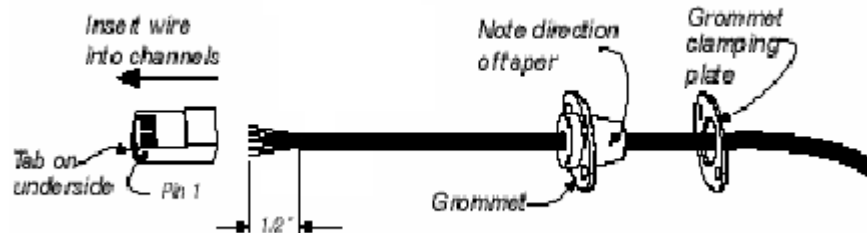

Figure 6-2 Outdoor Transceiver End of the Interconnect Cable with Cable Preparation
- 4) Strip 1/2 inch of insulation off the cable end. Trim the wire ends flat as shown in Figure 6-2.